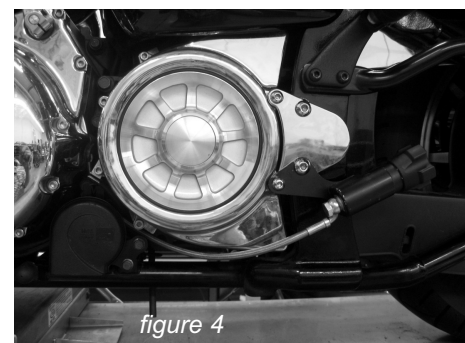

figure 4
- Mount the adjuster to the supplied mounting bracket using the supplied M6-1.0X8mm SHCS fasteners and torque them to 80-90 in/lbs (9-10 N-m). Then mount the bracket to the bike using the stock two drive-belt cover bolts - as shown in figure 4.